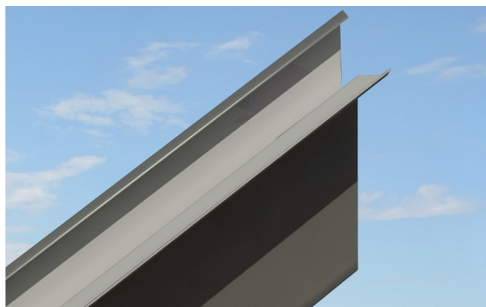

Fig.6. Make a small triangular cut.
1. Prior to fixing, offer the left hand trim up to the apex of the ridge and plumb cut the depth of the trim to the desired angle dependent on the pitch of the roof (Fig. 6).